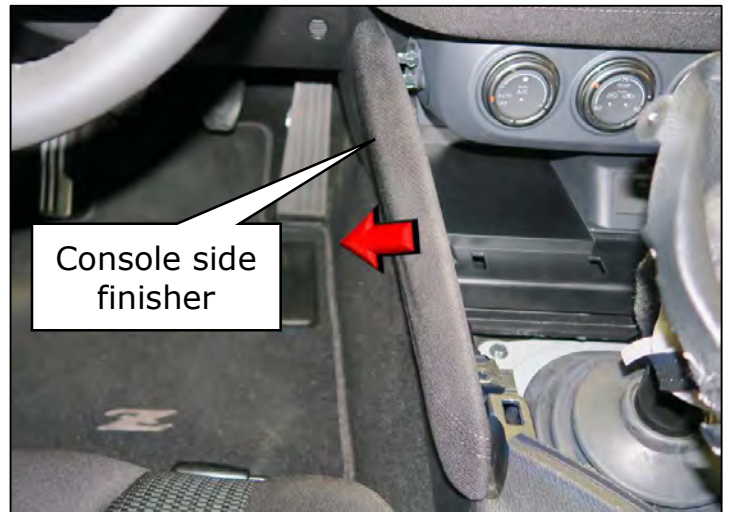

Figure 29
30. Remove both LH and RH console side finishers using a finesse stick. (Figure 29)